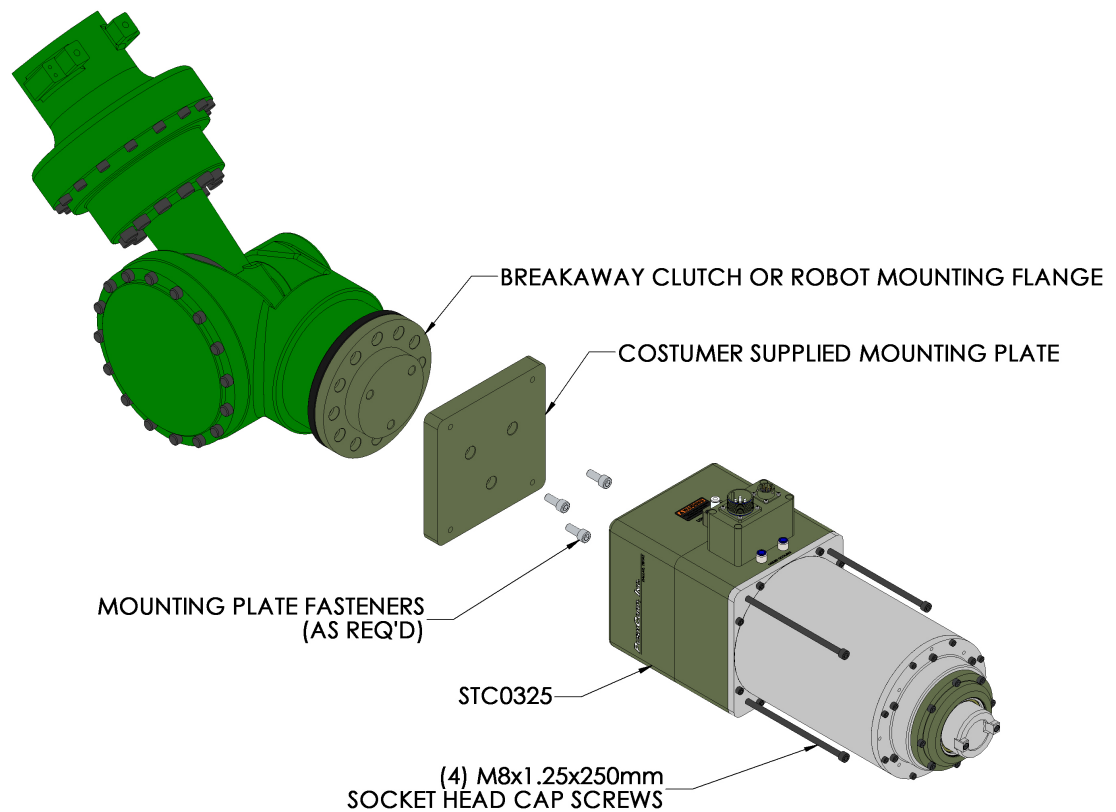

Figure 2. STC0325 Direct Mounting
To mount the STC0325, first attach the Mounting Plate to the Robot Mounting Flange or to the Breakaway Clutch, per the manufacturer's specifications. Once the Mounting Plate is secured, place the STC0325 against the Mounting Plate and install (4) four, M8x1.25X250mm, Socket Head Cap Screws. (See Figure 2.) Tighten the fasteners to the torque specified in Section 4.0.